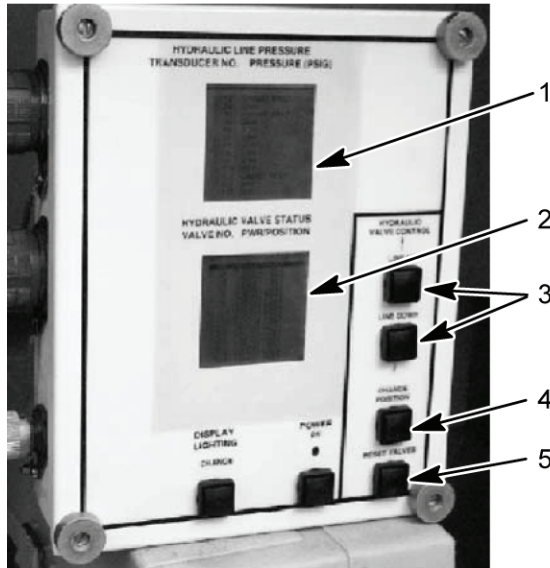

Figure 7. HDC Control Box
- Have assistant start engine and allow engine to idle (750–800 rpm). Slowly close right main hydraulic pressure inhibit valve V21 (Figure 8, item 1), until transducer T-3 pressure on the HDC display (Figure 7, item 1) indicates 3,950–4,050 psi (27,235–27,925 kPa).
- Open ejector inhibit ball valve V23 (Figure 8, item 2) on the DCV bank. Using LINE UP or LINE DOWN button (Figure 7, item 3), select V1 on the HDC display (Figure 7, item 2). Open V1 on the HDC display (Figure 7, item 2) by selecting the CHANGE POSITION button (Figure 7, item 4) on the HDC control box.